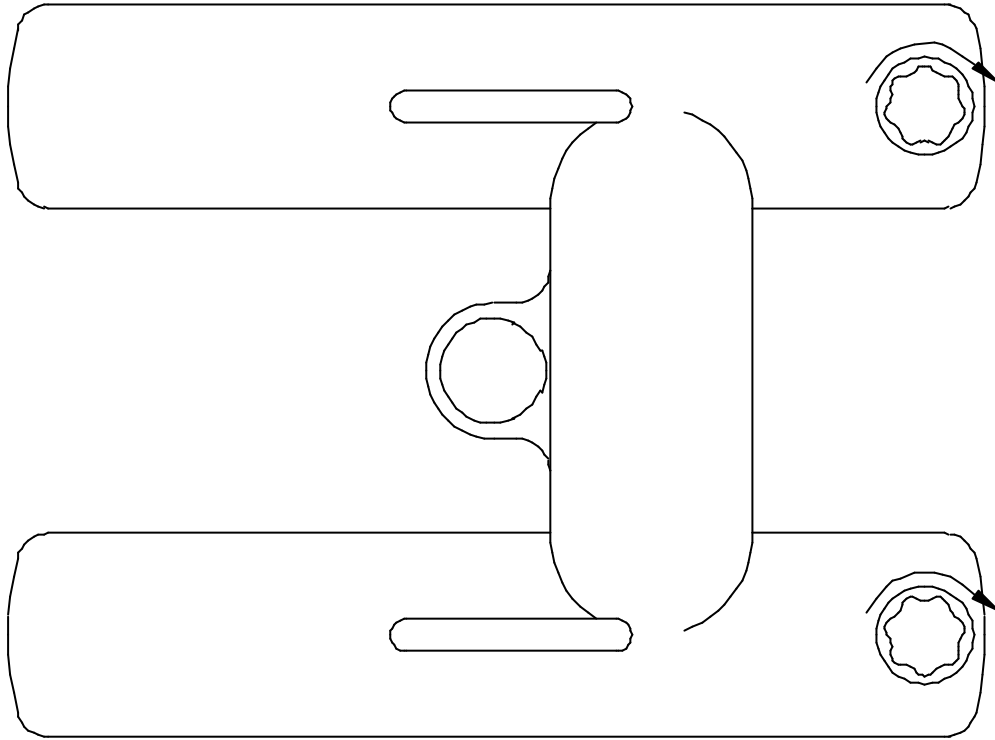

Figure 2 Fixing the floor stand
4. To fix the floor stand, screw the knobs down until the stops are resting evenly on the floor. Refer to figure 2.
5. Screw the knurled discs down on to the floor stand base to lock the stops. Refer to figure 2.